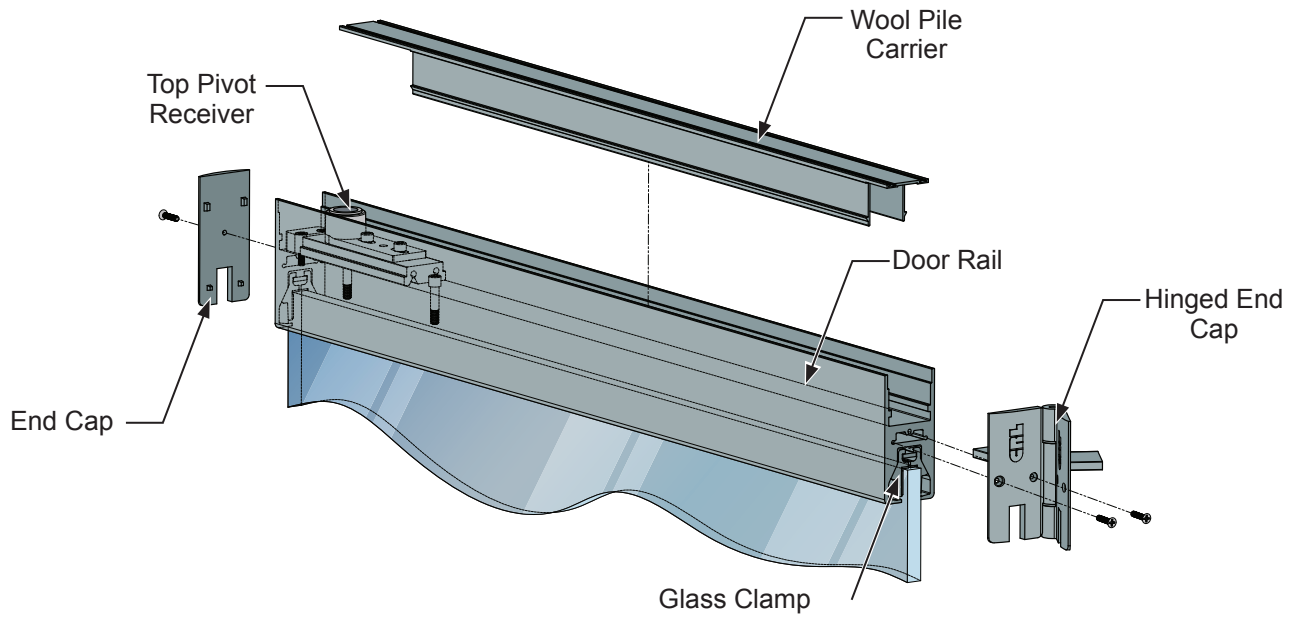

FIG. 8
1. Remove both end caps from the rail. (Fig. 8)
2. Remove the wool pile carrier from the rail. (Fig. 8)